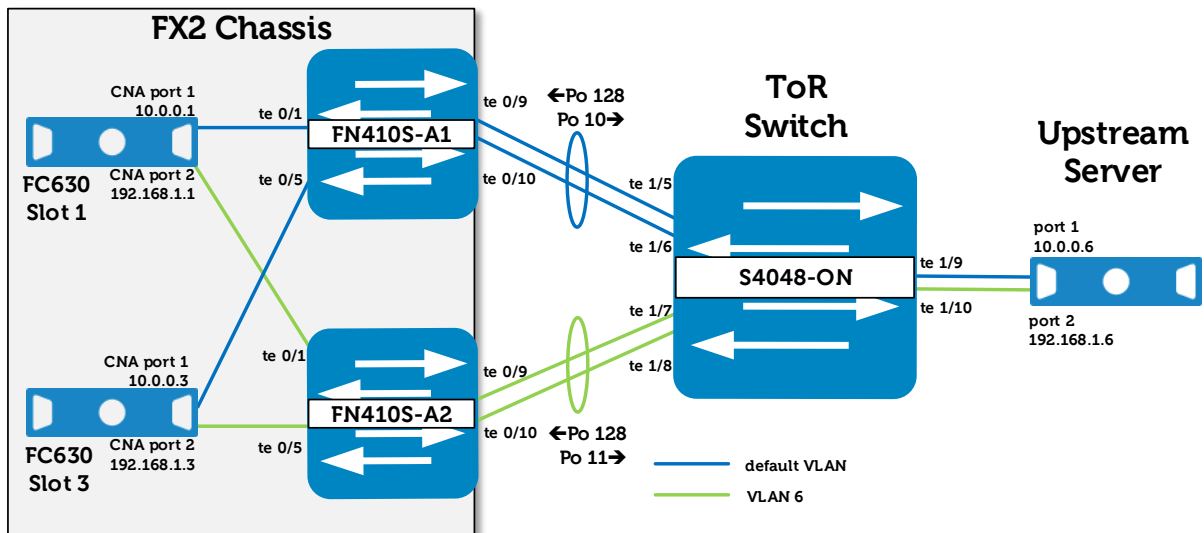

Figure 10 Both FN410S IOMs installed
4. Connect cables from S4048-ON ports te 1/7-1/8 to FN410S-A2 ports te 0/9-0/10. The network now appears as shown in Figure 10.
- On FN410S-A2, UFD detects port channel 128 is up and brings up the internal, server-facing ports (FN410S-A2 ports te 0/1 and te 0/5 in Figure 10). This causes the corresponding server CNA ports to come up.